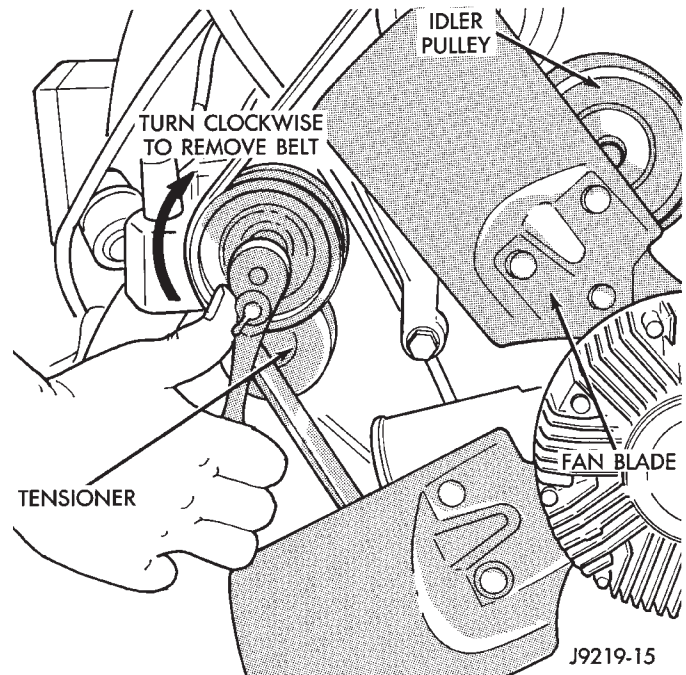
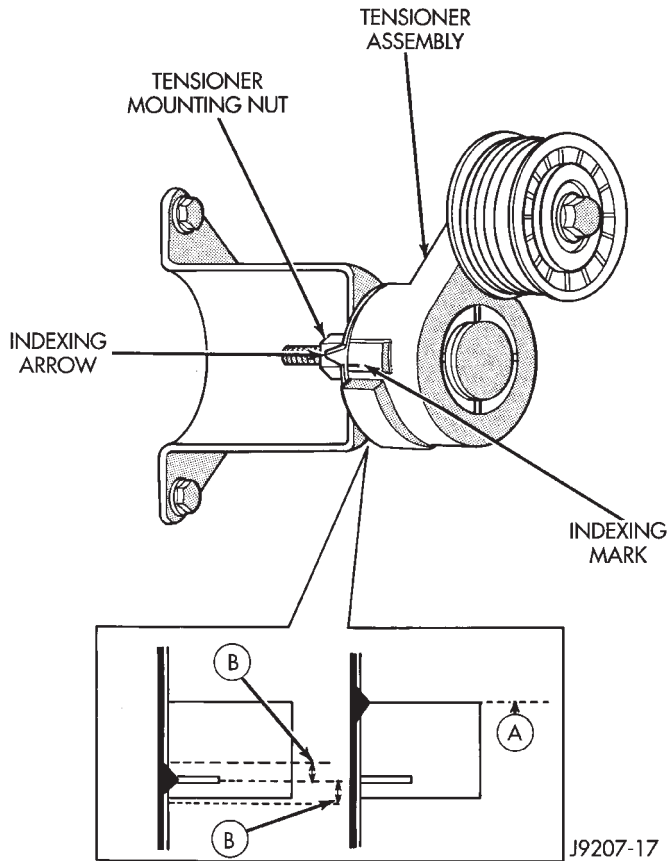

Fig. 7 Belt Tensioner—Belt Removal/Installation—5.2L Engine
Fig. 8 Belt Tensioner/Pulley Assembly—5.2L Engine
Drive belts on the 5.2L V-8 engine are equipped with a spring loaded automatic belt tensioner (Fig. 7). This belt tensioner will be used on all belt configurations, such as with or without power steering or air
(1) Attach a socket/wrench to pulley mounting bolt of automatic belt tensioner (Fig. 7).
(1) Position drive belt over all pulleys **except** idler pulley. This pulley is located between generator and A/C compressor.
(2) Attach a socket/wrench to pulley mounting bolt of automatic belt tensioner (Fig. 7).
(3) Rotate socket/wrench clockwise. Place belt over idler pulley. Let tensioner rotate back into place. Remove wrench. Be sure belt is properly seated on all pulleys.
(4) Check belt indexing marks. Refer to the preceding Automatic Belt Tensioner—5.2L Engine for more belt information.
Drive belts on the 5.2L engine are equipped with a spring loaded automatic belt tensioner (Figs. 7 and 8). This belt tensioner will be used with all belt configurations. Such as with or without power steering or air conditioning.
The tensioner is equipped with an indexing arrow (Fig. 8) on back of tensioner and an indexing mark on tensioner housing. If a new belt is being installed, arrow must be within approximately 3 mm (1/8 in.) of indexing mark (Point B—Fig. 8). Belt is considered new if it has been used 15 minutes or less. If this specification cannot be met, check for:
A used belt should be replaced if tensioner indexing arrow has moved beyond point A (Fig. 8).
- (1) Attach a socket/wrench to mounting bolt of automatic belt tensioner pulley bolt (Fig. 7).
- (2) Rotate tensioner assembly clockwise (as viewed from front) until tension has been relieved from belt.
- (3) Remove belt from idler pulley first.
- (4) Remove belt from other pulleys.
- (5) Disconnect wiring and secondary cable from ignition coil.
- (6) Remove ignition coil from coil mounting bracket (two bolts). Do not remove coil mounting bracket from cylinder head.
- (7) Remove tensioner assembly from mounting bracket (one nut) (Fig. 8).
- (6) Attach a socket/wrench to pulley mounting bolt of automatic belt tensioner (Fig. 7).
- (7) Rotate socket/wrench clockwise. Place belt over idler pulley. Let tensioner rotate back into place. Remove wrench. Be sure belt is properly seated on all pulleys.
- (8) Check belt indexing marks.